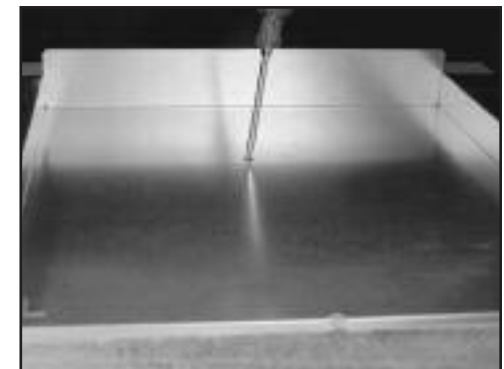

Fig. 07
5. Drill $1/8''$ pilot holes in the cabinet using the base as a template and install a screw through the base into the cabinet to prevent the base from shifting (Fig. 07).